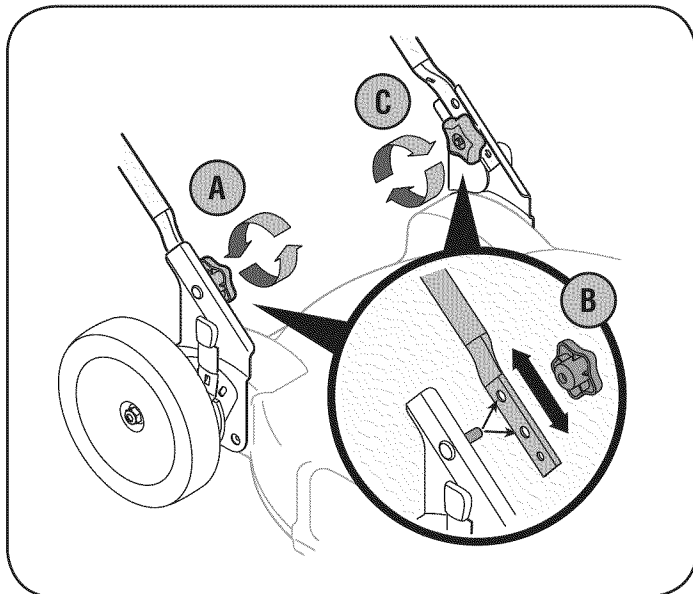

Figure 3
- If satisfied with the height of the handle, tighten the star knobs at the ends of the lower handle shown in Figure 3. For convenience of operation, you may adjust the handle height as follows:
- Remove the star knobs shown in Figure 3 and remove the lower handle.